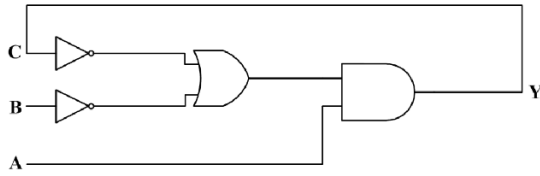

Fig. 3.15: Image
27. For the given digital circuit in Fig. 3.15,  $A = B = 1$ . Assume that AND, OR, and NOT gates have propagation delays of 10ns, 10ns, and 5ns respectively. All lines have zero propagation delay. Given that  $C = 1$  when the circuit is turned on, the frequency of steady-state oscillation of the output  $Y$  is \_\_\_\_\_. (GATE IN 2023)